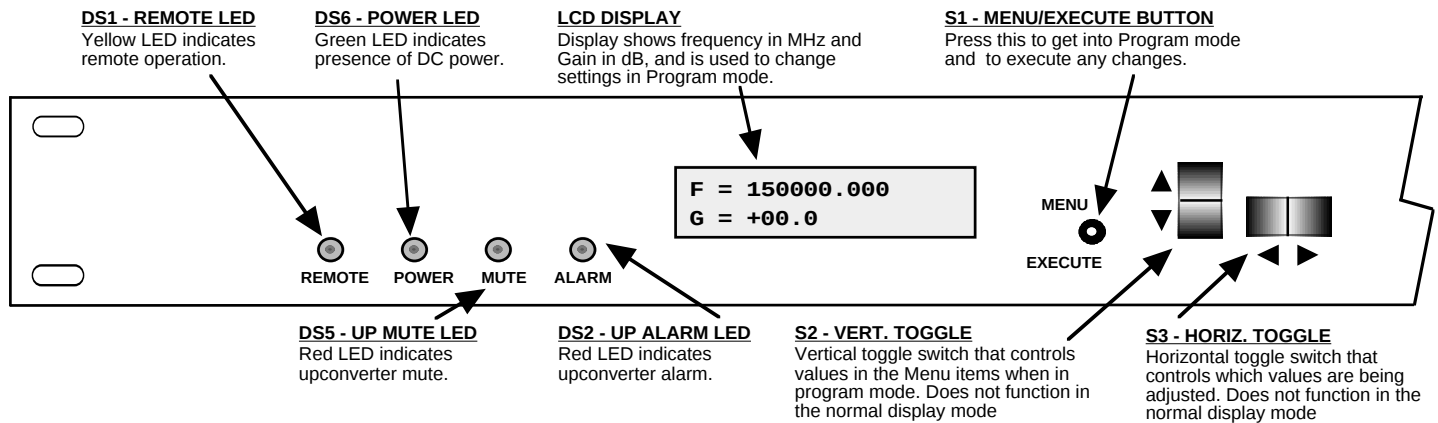

FIGURE 2.3 2015-152 Front Panel Controls and Indicators
2.3 Front Panel Controls and Indicators - Figure 2.3 shows the front panel controls and indicators.
7. Be sure DS6 (green, DC Power) is on and DS2 (red, Alarm) is off (Figure 2.3).